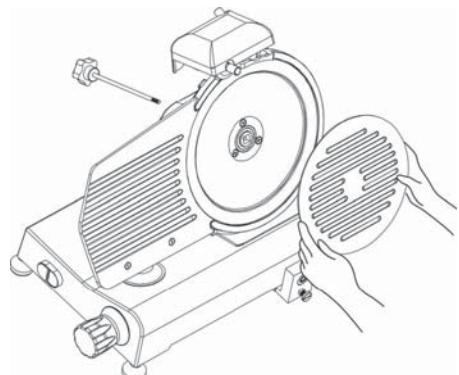

Fig. 6 – Blade guard removal
- set the dial knob in the "0" position (1);
- set the carriage (2) at the end of its run (a) near the controls;
- unscrew the screw (3), slide the carriage upwards (b);
Unscrew of the knob of the tie screw (1) (see Fig. 6) to release the blade guard (2).